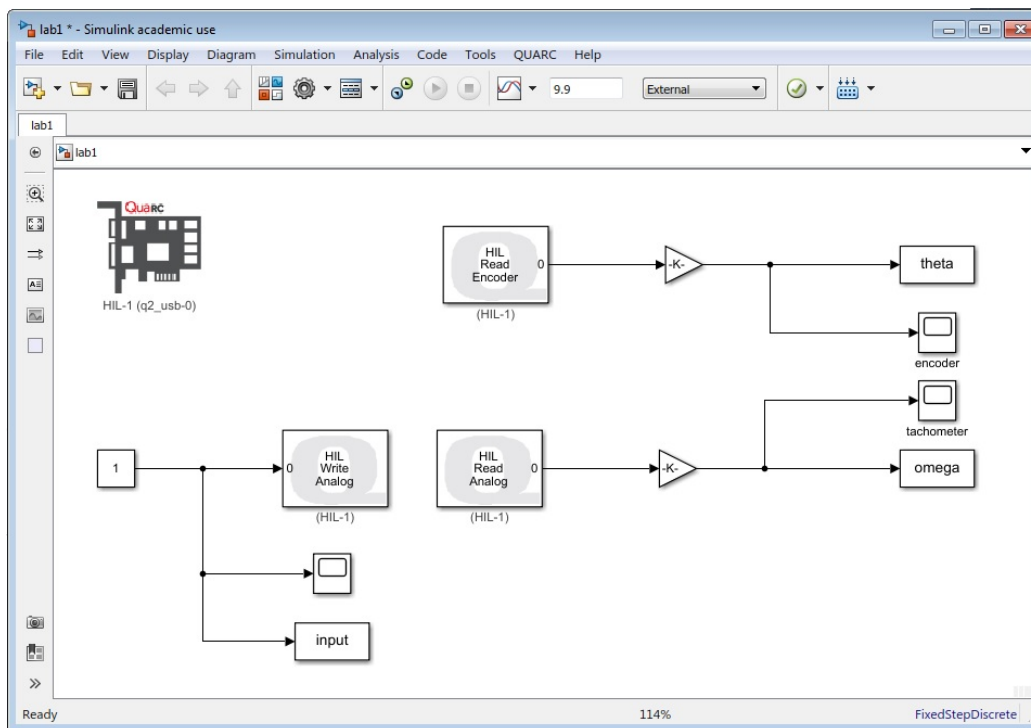

Figure 1.2: Simulink model for Lab 1
5. Build a Simulink model (the following steps will guide you through this) as shown in Figure 1.2. The model applies a constant voltage to the servomotor. The encoder is employed to acquire the angular position (θ) and the tachometer is used to acquire the angular velocity (ω) as functions of time.
Add in the rest of the blocks so that your model matches Figure 1.2.